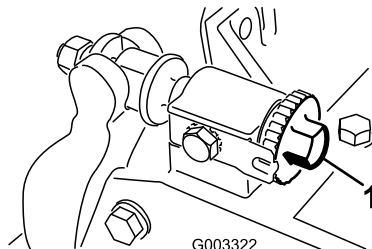

Figure 27
1. Loosen reel to bedknife contact by turning the bedknife adjusting knobs (Figure 27) counterclockwise until no contact exists.